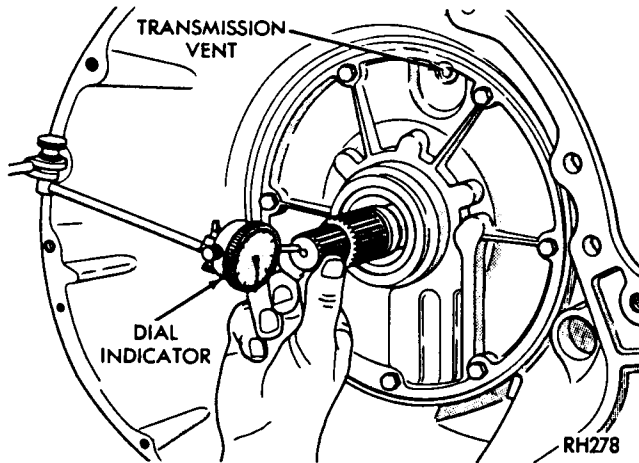

Fig. 5—Measure Input Shaft End Play
(1) Attach a dial indicator to transmission bell housing with its plunger seated against end of input shaft (Fig. 5).
(2) Move input shaft in and out to obtain end play reading. End play specifications are .022 to .091 inch for A-904T and A-999 transmission, and .034 to .084 inch for A-727 transmissions.
(3) Record indicator reading for reference when reassembling the transmission.